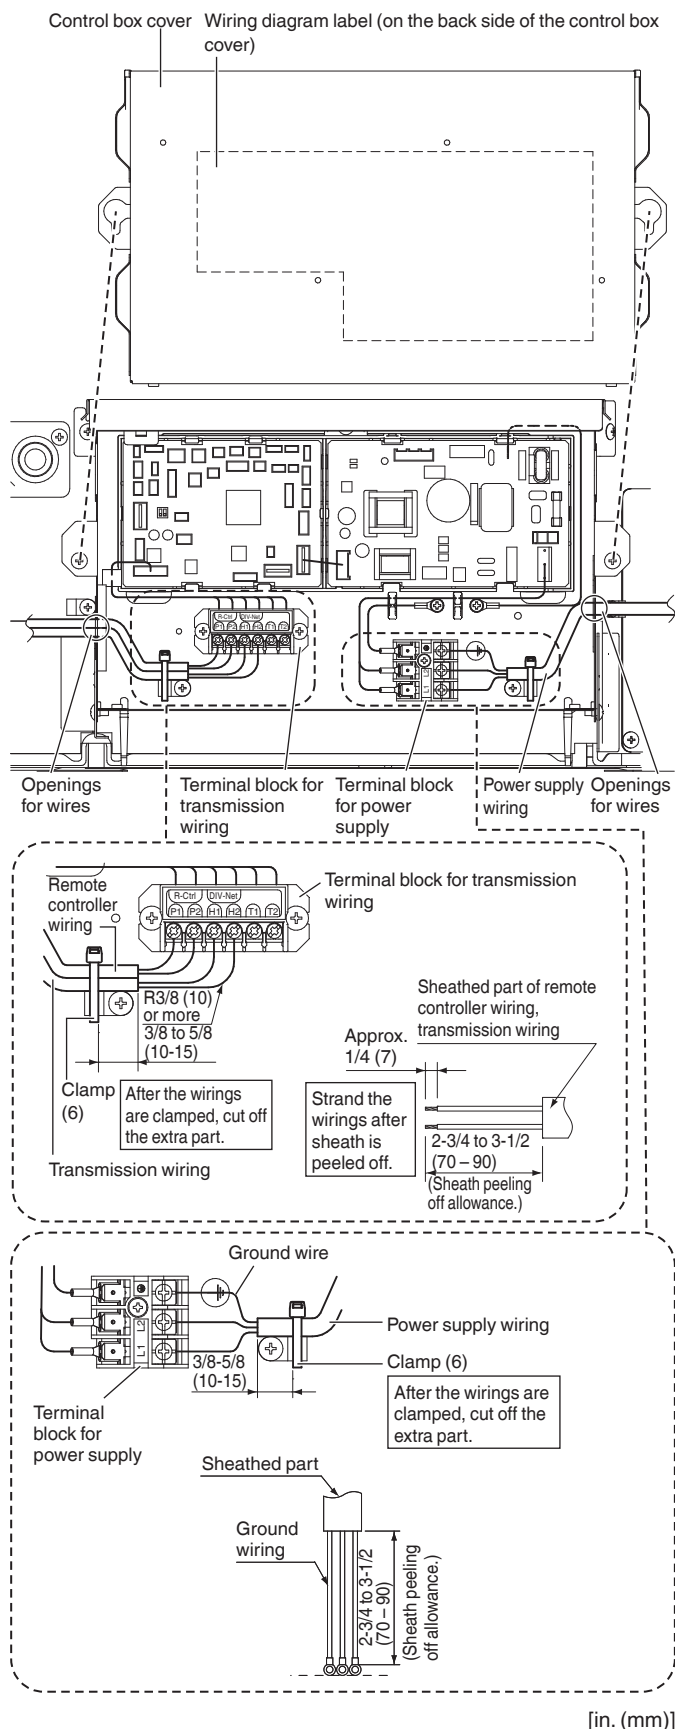

Figure 2
- Remove the control box cover by means of two screws. Connect the single-phase power supply (208/230V 60Hz) to terminals L1 and L2 on the terminal block for power supply and connect the ground wire firmly (See figure 2).
How to connect wiring (See Figure 2)